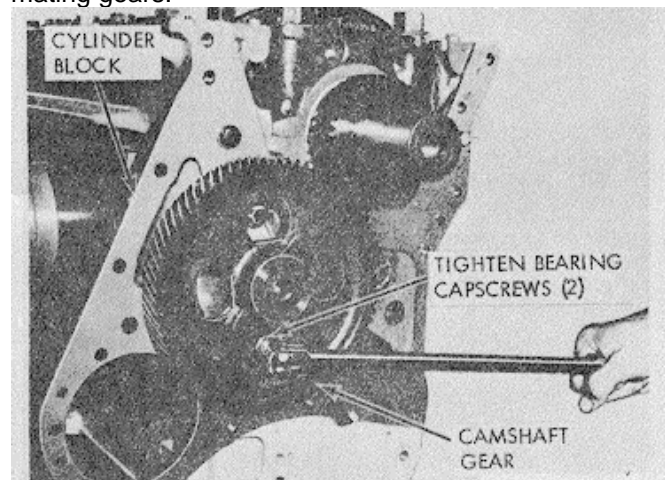

Figure 3-190. Securing camshaft bearing retainer to block.
(1) Lubricate all camshaft bushings (in block) with high pressure grease.
(2) Rotate camshaft during installation to allow lobes to pass through bushings easily.
(3) Index "O" on camshaft gear with 'O' on crankshaft gear; this is Number One topcenter firing position.
(4) Slide camshaft completely into block; align bearing retainer mounting holes with those in block and secure with lockwashers and capscrews through openings in camshaft gear. Refer to figure 3-190.
(5) Tighten capscrews to 30/35 ft. lb.